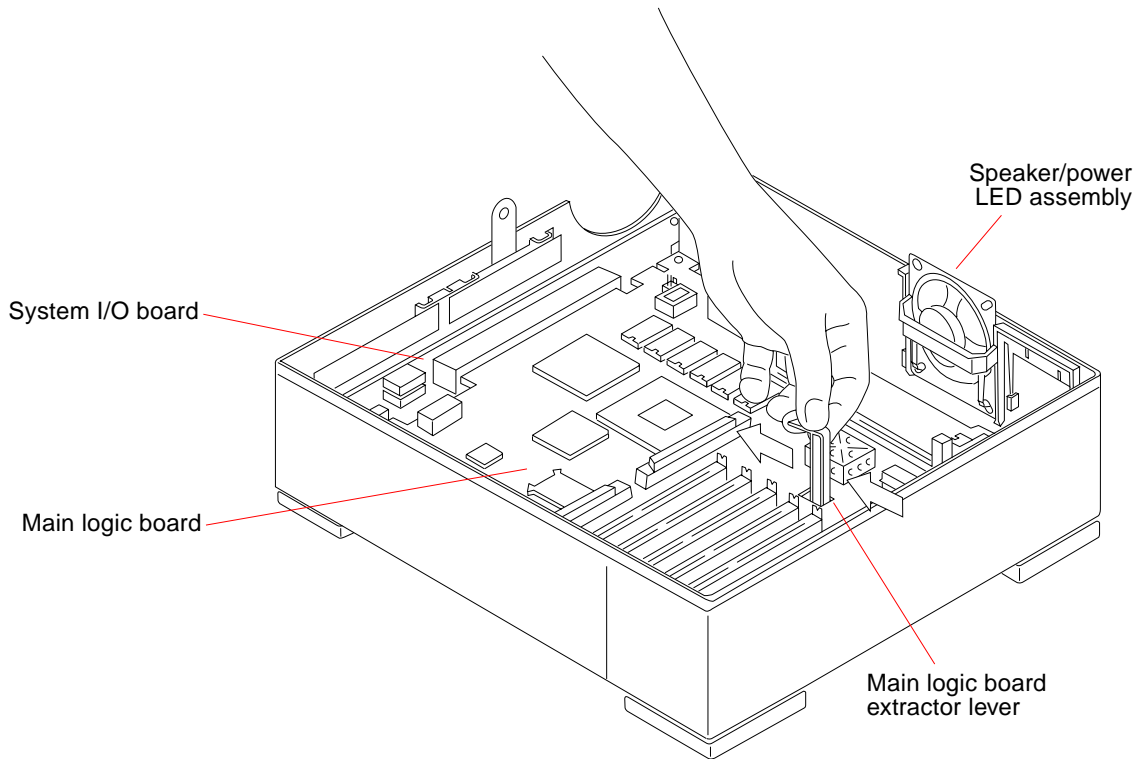

FIGURE 11-18 Plugging in the Main Logic Board
- d. Push the main logic board extractor lever toward the rear of the system unit to plug the main logic board into the system I/O board (see FIGURE 11-18).**